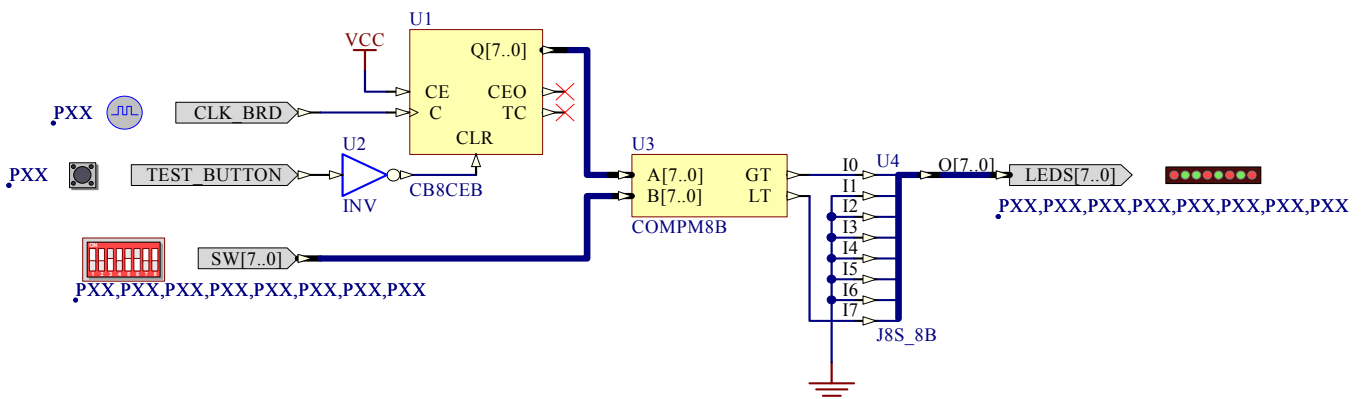

Figure 17. Place and wire the components to create the Pulse Width Modulator
3. Using components from the two libraries `FPGA Generic.IntLib` and `FPGA NanoBoard Port-Plugin.IntLib`, place and wire the schematic shown in Figure 17.